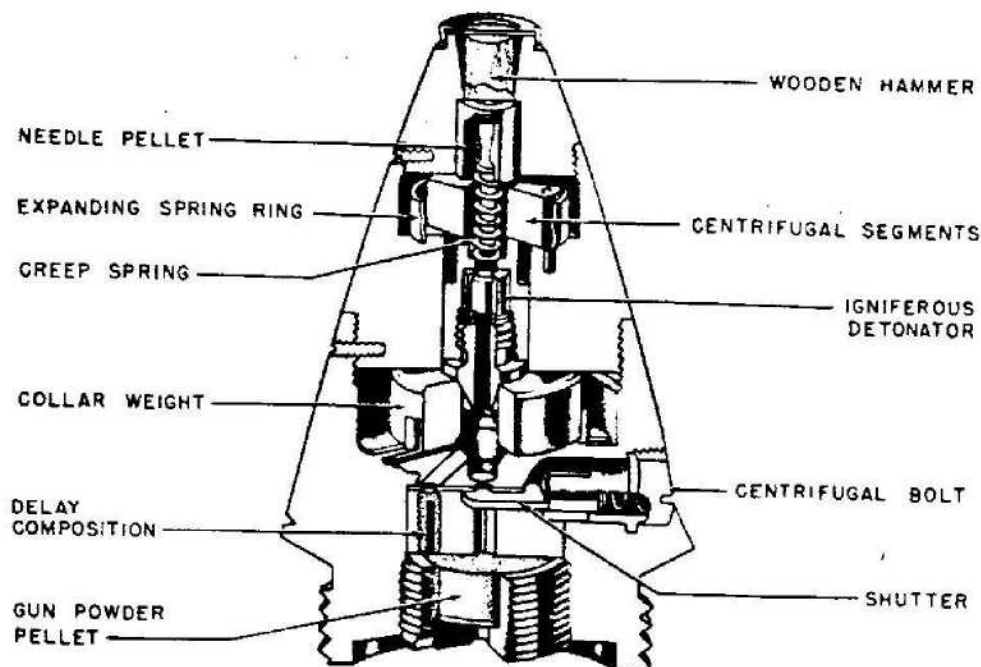

Figure 583—Le Jgr. Z 23 n. A.
**CONSTRUCTION:** The nose section is bored centrally in two diameters to form a chamber at the base to accommodate the striker holder and above it, a recess to accommodate a wooden rod forming an extension to the striker. The top of the recess is coned outwards. Externally, at the bottom, it is screw-threaded for insertion in the center section. The steel cylindrical striker holder is bored centrally in two diameters to receive the steel striker. The striker is secured in the holder by turning the metal at the top of the boring over the head of the striker. The underside of the holder is recessed to form a bearing for one end of the creep spring which surrounds the stem of the striker. (See fig. 583.)